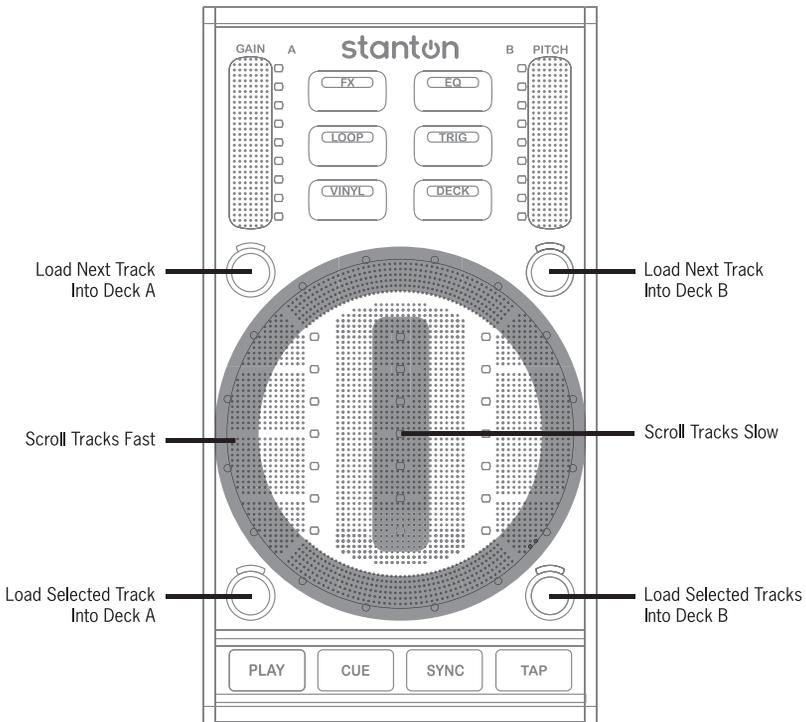

Figure 6.26
6.3.1.4 Trigger Mode (Figure 6.26)